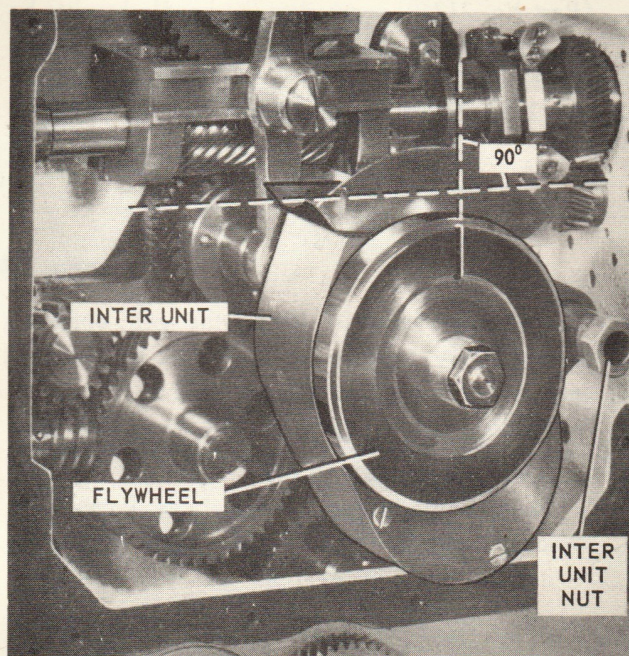

FIGURE 2.
3. Set the line on the intermittent unit flywheel at an angle slightly to the left of the position shown in Fig. 2 then holding the unit by the housing only, carefully insert the unit into the projector. This will enable the gear on the flywheel shaft to rotate into mesh and should bring the line on the flywheel to the correct timing position illustrated. When all the foregoing timing marks line up the nut securing the intermittent unit to the racking quadrant must be re-fitted and tightened.
2. Rotate the projector mechanism until the line in the intermittent unit is in the position shown in Fig. 2.